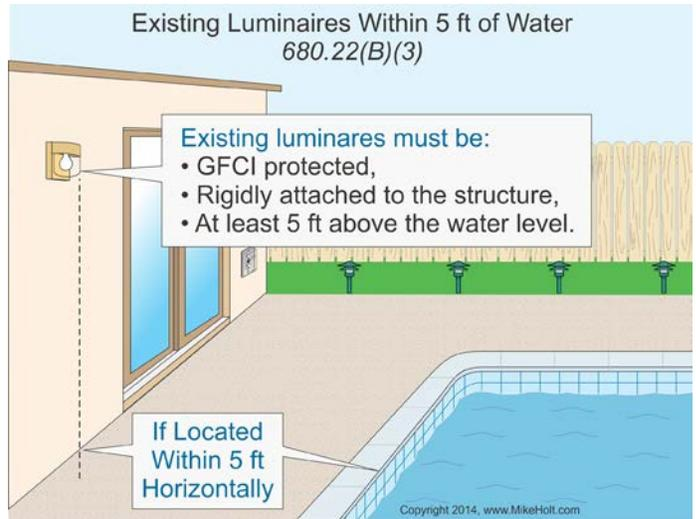

Figure 680-26
(1) New Outdoor Installations. Luminaires and ceiling fans installed above the water, or the area extending within 5 ft horizontally from the inside walls of a permanently installed pool, outdoor spa, or outdoor hot tub, must not be less than 12 ft above the maximum water level.
(3) Existing Installations. Existing luminaires located less than 5 ft horizontally from the inside walls of a permanently installed pool, outdoor spa, or outdoor hot tub must be not less than 5 ft above the surface of the maximum water level, must be rigidly attached to the existing structure, and must be GFCI protected. *Figure 680-26*
(4) Adjacent Areas. New luminaires installed between 5 ft and 10 ft horizontally from the inside walls of a permanently installed pool, outdoor spa, or outdoor hot tub must be GFCI protected, unless installed not less than 5 ft above the maximum water level and rigidly attached to the existing structure adjacent to or enclosing the permanently installed pool, outdoor spa, or outdoor hot tub.